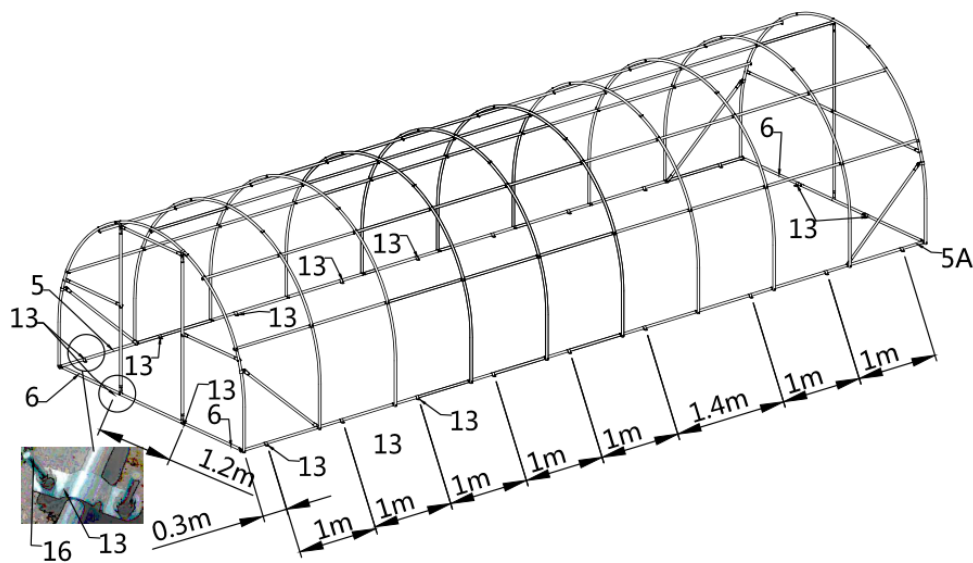

Figure 11
- Fix the roof purlin (#5) and (#5A) close to the ground on the concrete ground with riding clip (#13) and expansion bolt (#16). The installation dimension shown in the figure is for reference (refer to figure 11). If the truss is installed on the earth ground, it needs to be fixed by inserting at least 11 inch steel bars (not equipped with this product cloth) into the riding clamp.
- (22) Riding clip (#13)
- (44) Expansion bolt (#16)